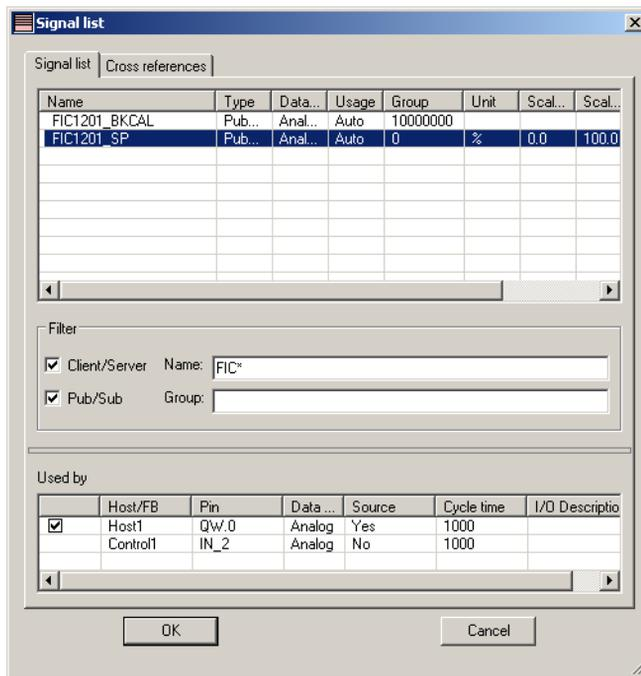

Figure 178. Example for signal usage configuration
- c. Check the Host by which the signal shall be used. If the communication direction is IEC61131 -> FF, check, whether the source parameter is set to "yes". Refer to Figure 178